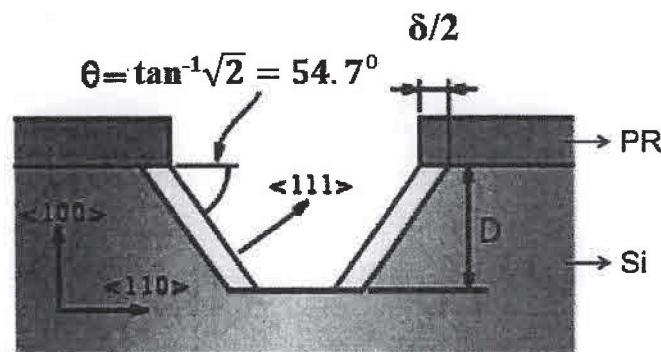

Figure 2
2. (a) Briefly discuss wet etching process on Si (100) according to Figure 2. In the figure, $\delta = 2 \mu\text{m}$ and $D = 350 \mu\text{m}$ when the etching process is stopped after 5 minutes. What are the etch rates in the $<100>$ and $<111>$ directions?